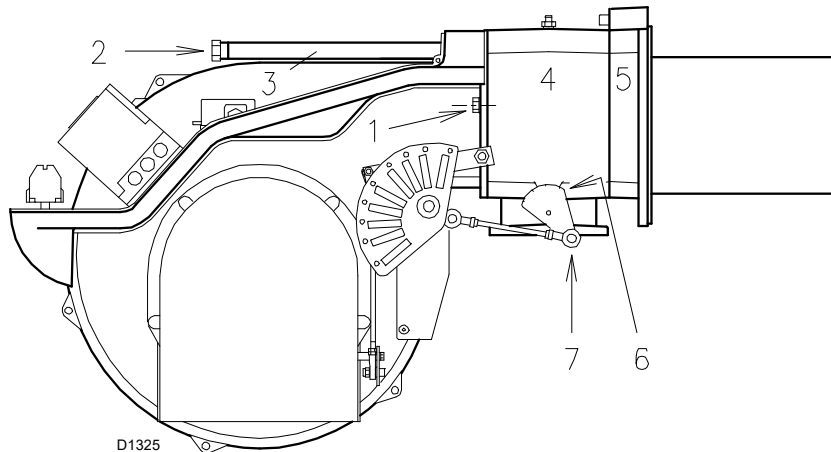

Fig. 17
- insert the probe and electrode cables, then slide the burner as far as the pipe coupling - burner in the position shown in Fig. 17;